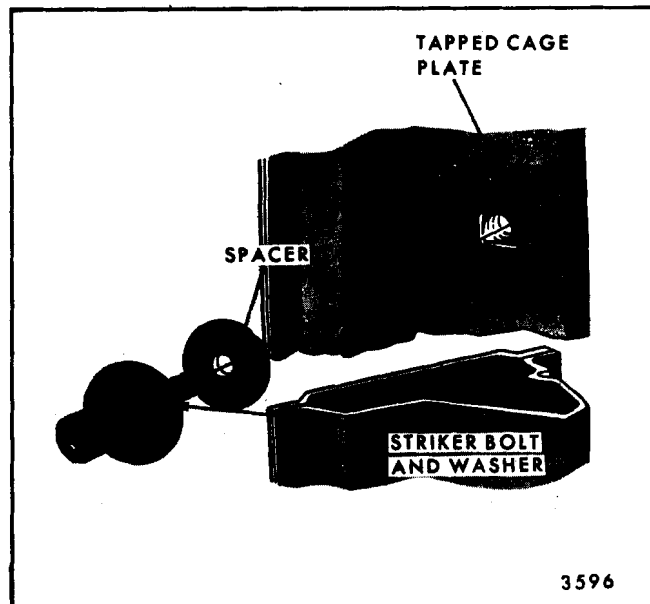

Fig. 6-22-Door Lock Striker Installation
2. Insert tool J-23457, BT-7107 or equivalent into the star shaped tool recess in the head of the striker bolt and remove striker (refer to Figure 6-22).